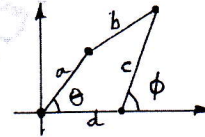

Fig.Q6(b)
- b. A schematic of a four bar mechanism with input link 'a' and output link 'c' is shown in Fig.Q6(b). The angles  $\theta$  and  $\phi$  for three successive positions are given in the table below: